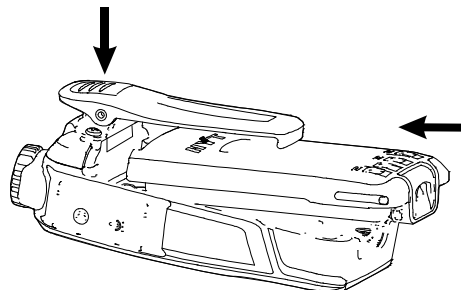

Figure 3
- ① Press the battery closer to the top part of the aluminum chassis under the belt clip, as shown in Figure 3.